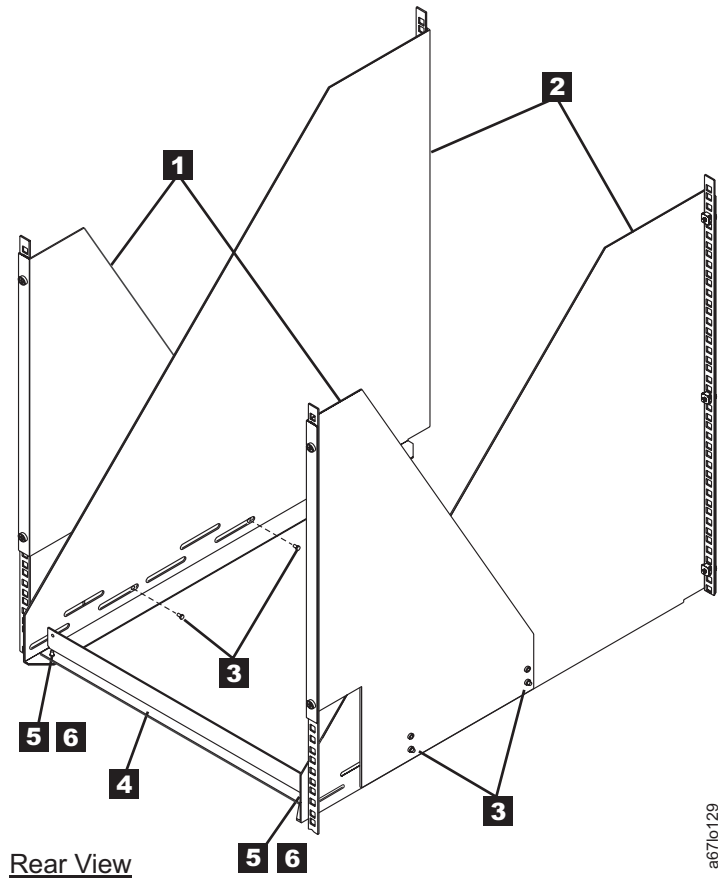

Figure 14-15. Installing the rear stop bracket
11. Attach the front mounting brackets (see **2** in Figure 14-15) to the rear mounting brackets **1** by placing four screws **3** through the slots, two on each side. Secure the brackets loosely by tightening the screws.